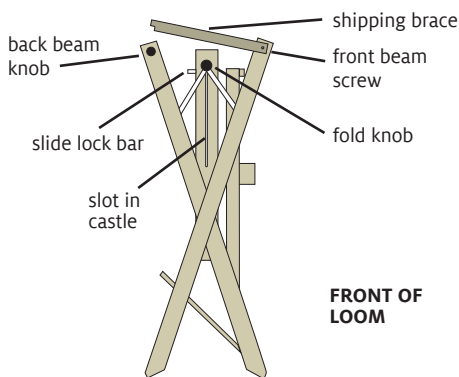

FIGURE 1: UNFOLDING THE LOOM
2. Slightly loosen the black fold knobs on each side of the loom (Figure 1). Generally, a single turn will do.